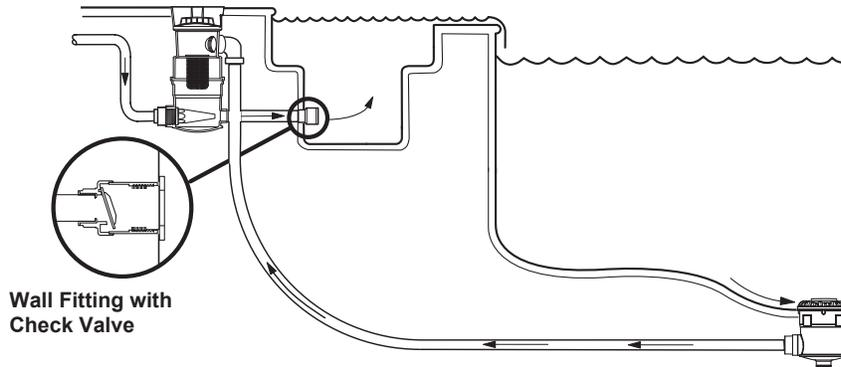

Figure 3. Orientation of the Internal Check Valve
- The specialized return-line wall fitting for this system has an internal check valve that must be installed **right side up** (see Figure 3).